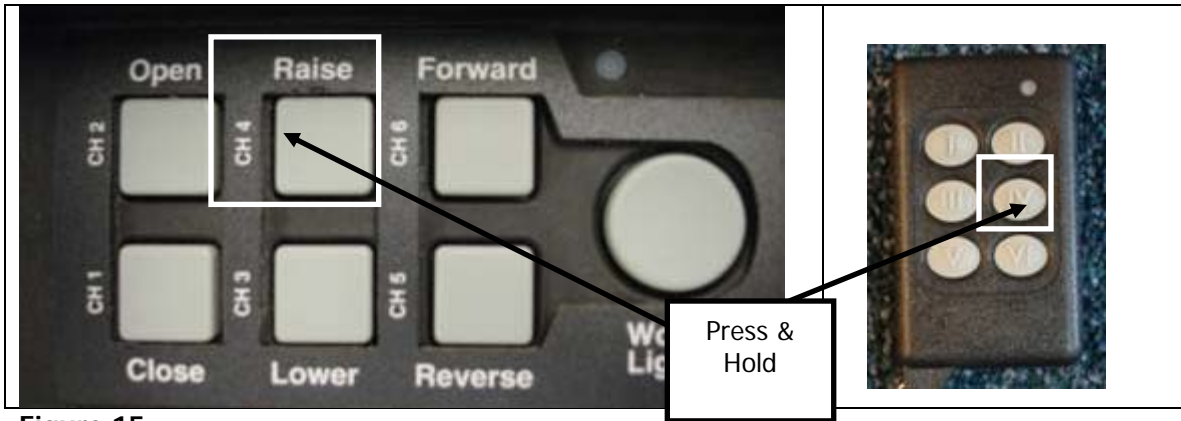

Figure 15
- 2) Raise tower as high as possible to keep tarp from dragging on the load in the container. To raise tower press & hold button 4 on the control box or the key fob (see Fig. 15).